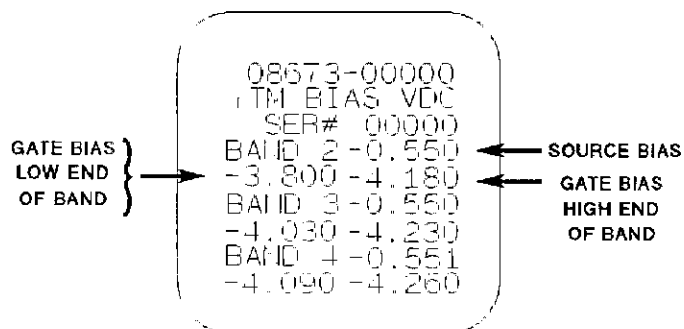

Figure 8-38. YTM Bias Label
- Refer to the SRD BIAS label on the back of the A2 section (See figure 8-38). Using a DVM, check the voltages at test points 1 and 2 of A1A8 against this label. On the label, the voltage listed to the right of the band number is the source bias voltage (TP1) which does not vary across the band. The voltage below the band number is the Gate Bias voltage at the low end of the band, and the remaining voltage is the Gate Bias voltage at the high end of the band.